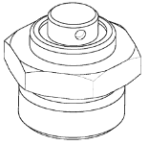

Fig. 3 3 bar valve
- The 3BAR valve (Fig. 3) must be installed on the top part of the towel rail.